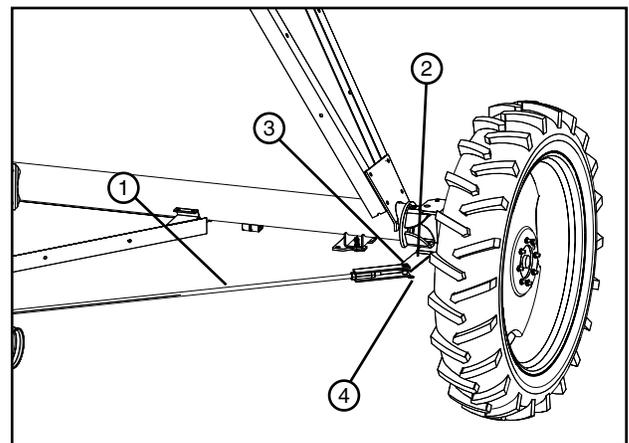

Figure 65-2 1. Tie Rod 2. Steering Arm 3. Clevis Pin 4. Hair Pin
2. Connect end of tie rod to steering arm with one clevis pin and hair pin. See Figure 65-2.